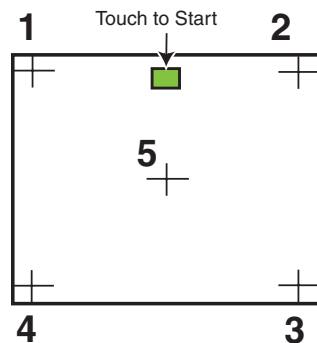

Figure 18. Sequence of Cross Positions for Setting the Touch Accuracy of a Screen
4. Repeat by tapping the crosshatch as it reappears in each corner, in sequence (see **Figure 18** on previous page) and then tap the crosshatch when it appears in the center of the screen.